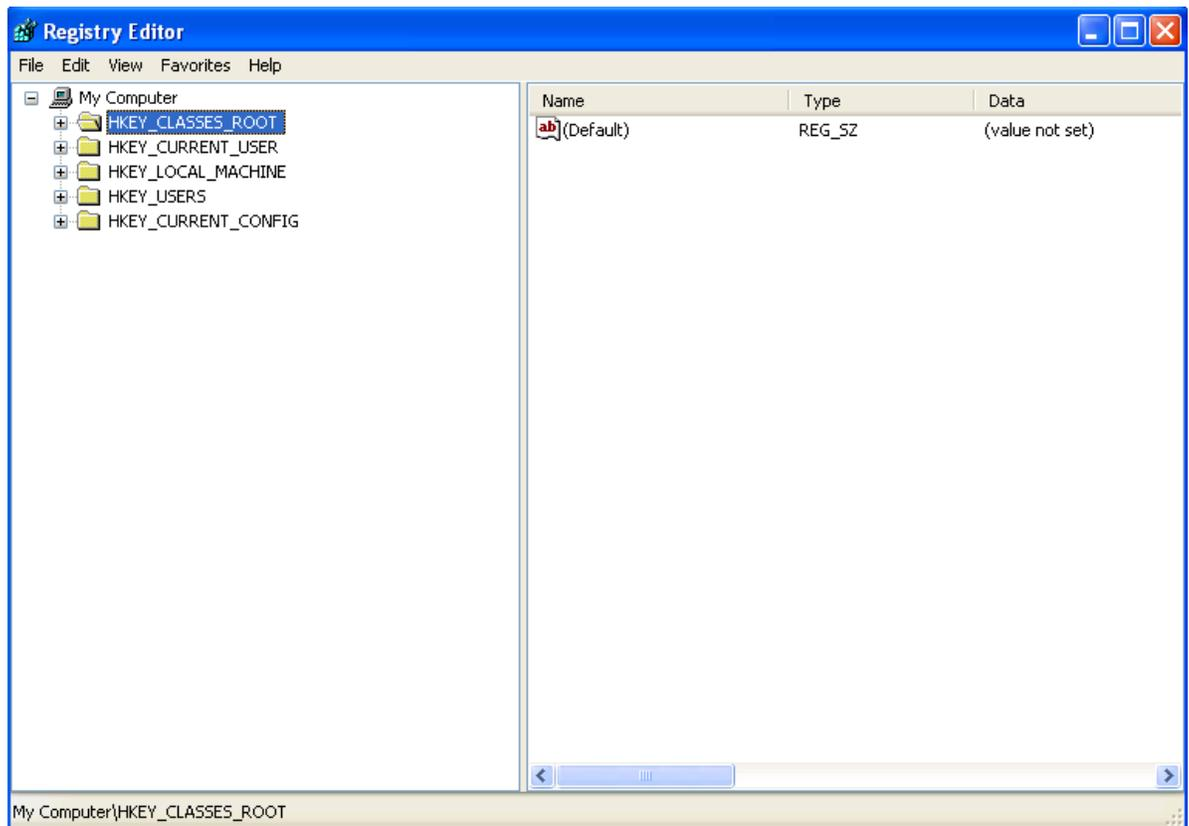

Figure 38 - Registry Editor
2. The **Registry Editor** (Figure 38) is launched.